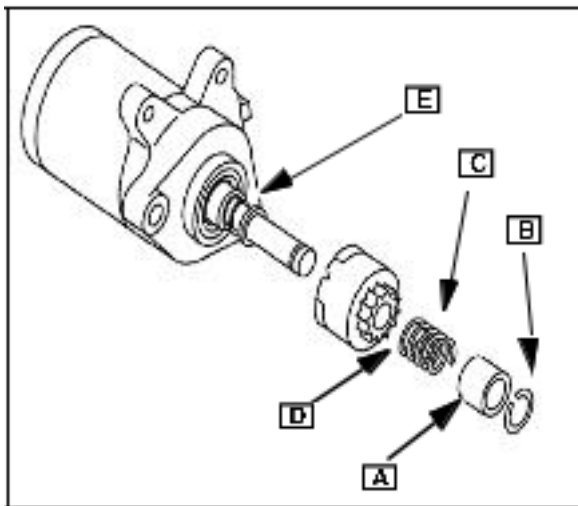

Fig. 38
2. Push down on upper spring retainer (A) to expose retainer ring (B) on shaft. Use a small screwdriver, and pry off retaining ring.
Remove upper spring retainer, spring (C), and pinion gear and clutch ([D] Fig. 38).
Inspect the pinion gear and clutch ([D] Fig. 38) for damaged teeth.
Refer to Fig. 38